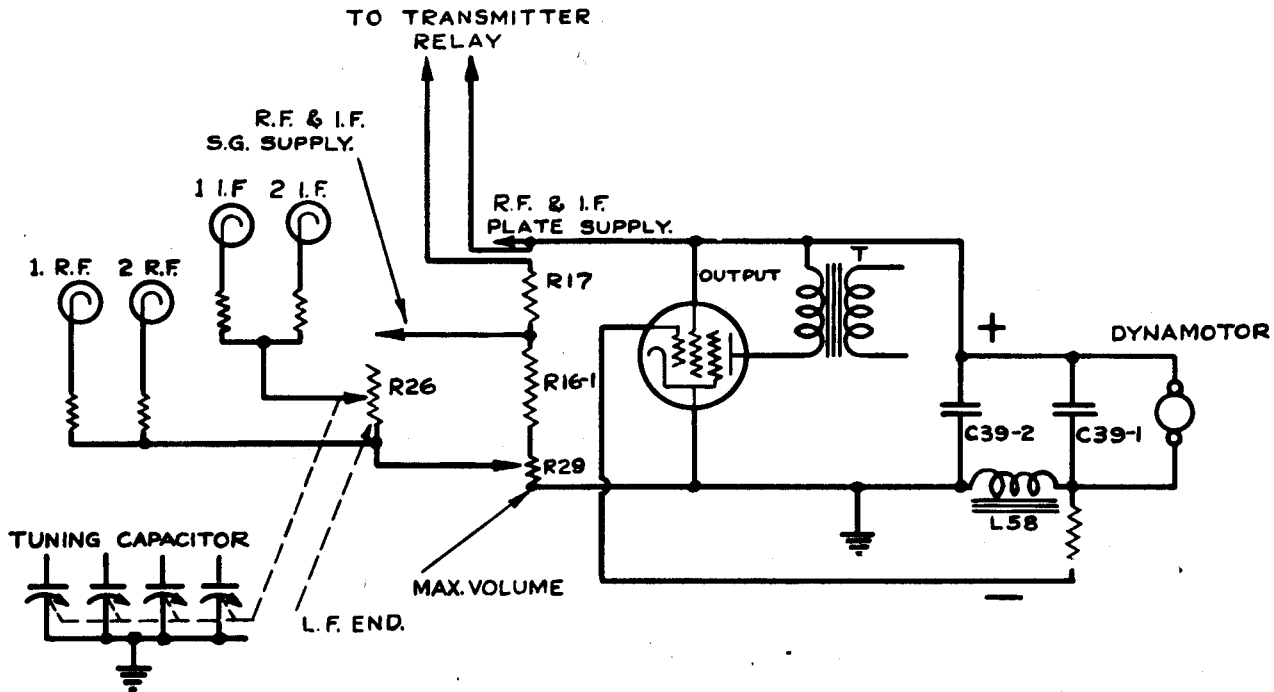

Fig. 11 - Load Compensator and Bleeder Circuit Details
Automatic load compensation is obtained by the method of biasing the output tube. Here, the grid bias is obtained from the resistance drop across the dynamotor filter reactor, thus, any tendency towards a decreasing load on the dynamotor results in a slight decrease in the bias of the output tube with a compensating increase in the load current. (See Figure 11).
b. The characteristic increase of internal receiver noise when tuning from the low to the high frequency end of a band has been corrected in this design by means of the potentiometer R26. The function of this potentiometer can be more clearly understood by reference to Figure 11. Here the noise compensator R26 is mechanically connected to the shaft of the ganged tuning capacitor with the electrical connections such as to give minimum resistance at the low frequency end of the band.